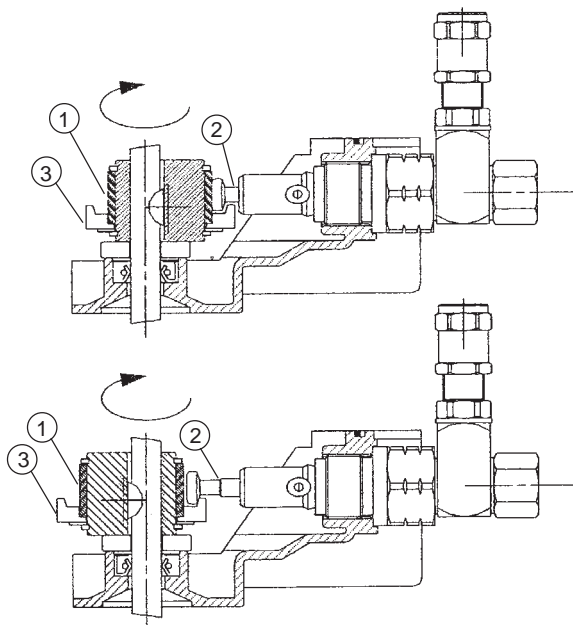

Figure 1
The Tri-Lube pump is operated by an AC or DC electric gearmotor (see Figure 1) connected to an eccentric (1). As the eccentric rotates, it causes the pump piston (2) to move forward discharging lubricant past an internal check valve. As eccentric (1) continues to rotate, the pull back ring (3) forces the piston back to the prime position. Also attached to the drive shaft of gearmotor is a spatula that has an angled surface that forces grease into each pump cavity as it rotates; assisting with pump priming.